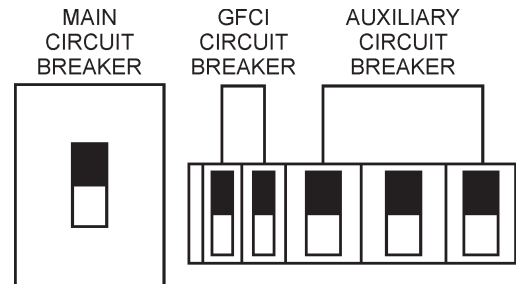

Figure 50. Main, Aux. and GFCI Circuit Breakers (ON)
11. Place the **main**, **GFCI**, and **aux.** circuit breakers in the **ON** position (Figure 50).